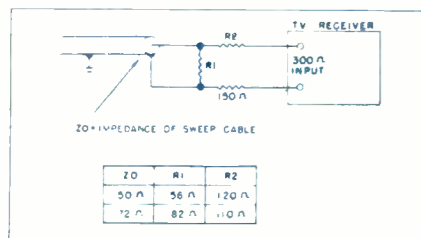

Fig. 6 - Impedance Matching Network
28. Adjust the sweep generator to channel 13 (210 to 216 mc.), and connect its output cable to the receiver antenna terminals through the impedance matching network shown in Fig. 6. Keep the leads as short as possible.